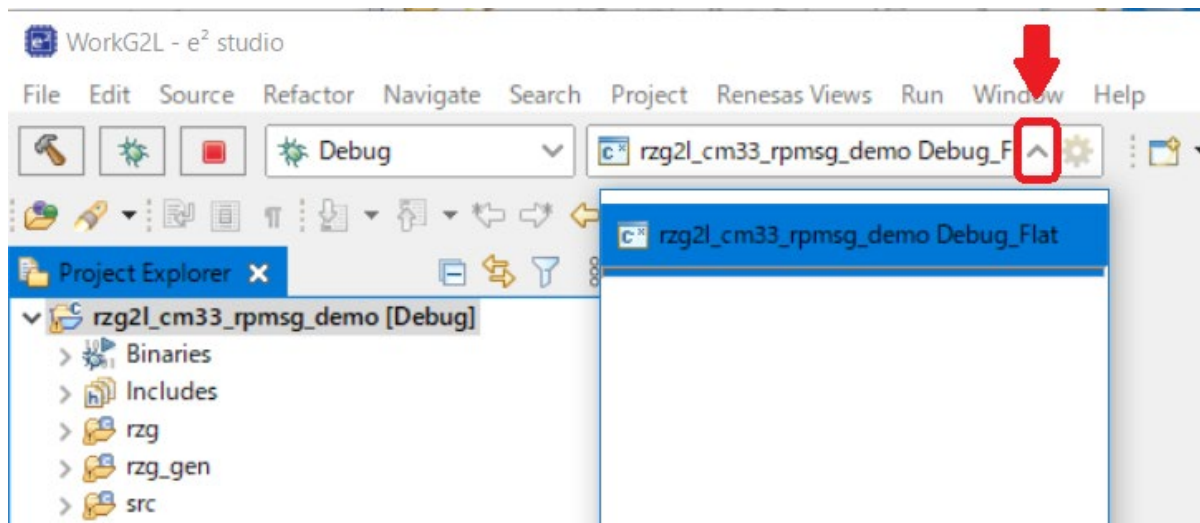

Figure 4-4. Select of Debug Configuration
- Choose rzg2l_cm33_rpmsg_demo Debug_Flat or rzg2l_cm33_rpmsg_demo Release_Flat from the drop-down list indicated by a red arrow in Figure 4-4.